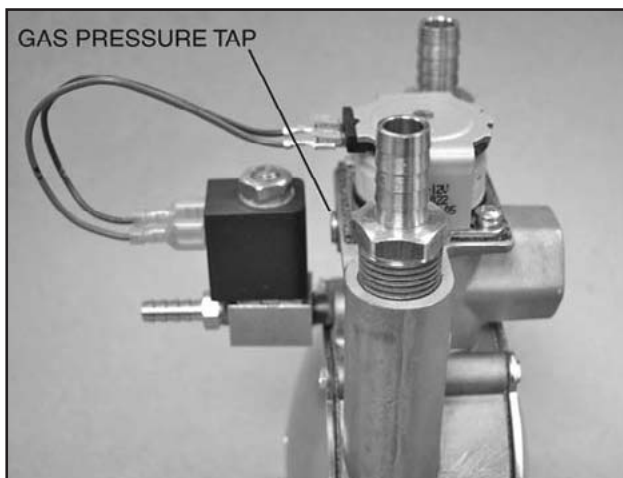

Figure 15. Gas Pressure Test point on 9/10 kW Unit
2. Connect jumper cables and clamp-on ammeter as shown in Figure 15.